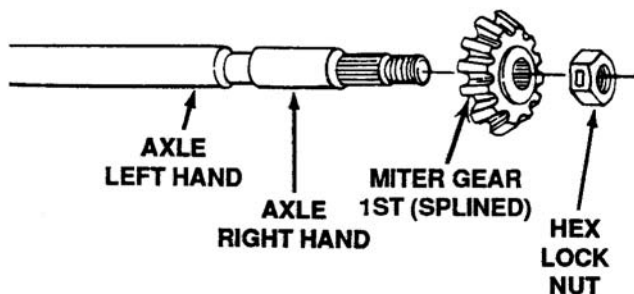

Figure 6-23. Removing Lock Nuts From Ends of Axles
20. Remove hex lock nuts on end of each axle to remove the miter (splined) gear. See Figure 6-23.